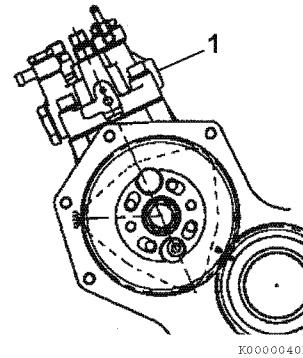
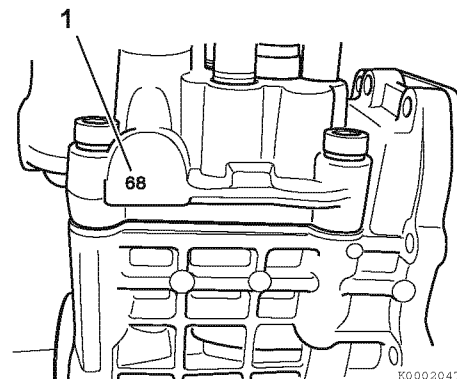

Figure 7-31
Figure 7-32
1. Locate and record the fuel injection pump timing index number (**Figure 7-32, (1)**) stamped into the boss on the engine side of the fuel injection pump housing (**Figure 7-31, (1)**). Treat this number as though there is a decimal point between the two digits. i.e. 68 = 6.8